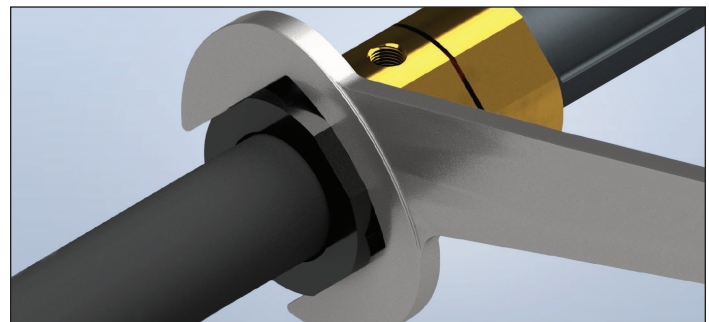

Figure: 1-12
14. Tighten the Rear Flange up to one full turn beyond hand tight, OR until the Rear Flange bottoms out against the Flange Body; whichever occurs first (Figure 1-12). Final torque values are listed in Table 2.